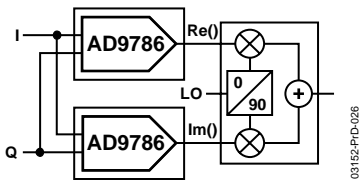

Figure 77. AD9786 Driving Quadrature Modulator
The AD9786 can be configured to drive a quadrature modulator representatively, as in Figure 77. Where two AD9786s are used with one AD9786 producing the real output, the second AD9786 produces the imaginary output. By configuring the AD9786 as a complex modulator coupled to a quadrature modulator, IF image rejection is possible. The quadrature modulator acts as the real part of a complex modulation producing a double sideband spectrum at the local oscillator (LO) frequency, with mirror symmetry about dc.